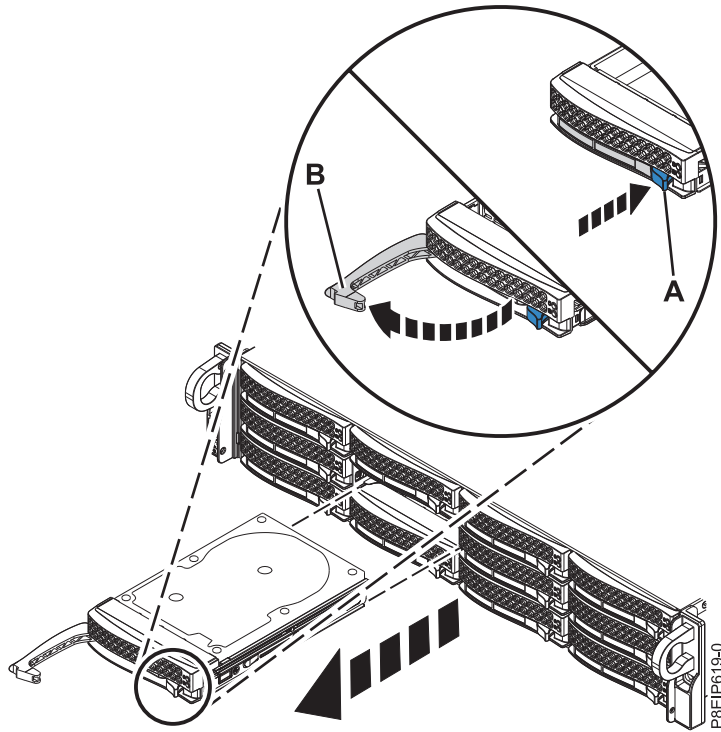

Figure 97. Removing a drive
2. Unlock the drive bay handle (B) by pushing in the handle release (A) as shown in Figure 97. The handle (B) snaps out towards you. If the handle does not snap out all the way, the drive does not slide out of the system. If the drive does not match the serial number you wrote down in the previous step, reinstall the drive in the bay you removed it from, and check the other drive bays.